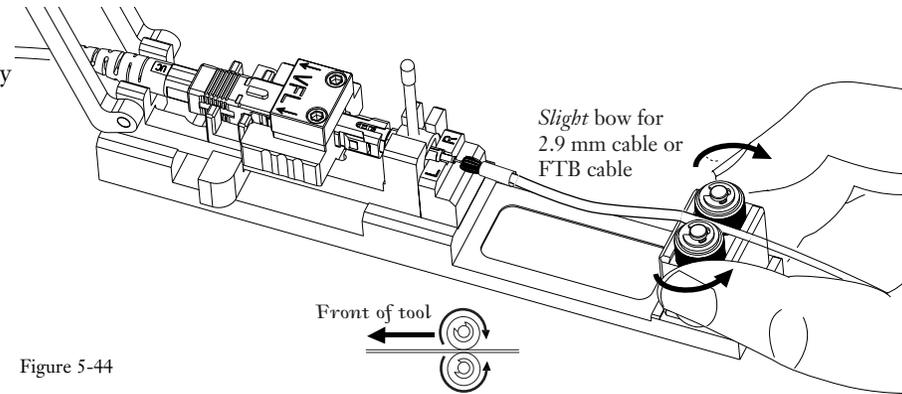

Figure 5-44
**For installation on 2.9mm cable or FTB cables** - lightly pinch the index rollers on the fiber, and slowly rotate the rollers until the cable jacket just begins to bow between the connector and the index rollers (Figure 5-44).